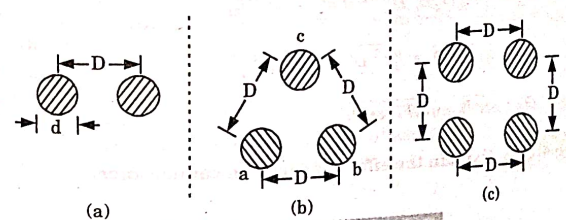

Fig. 4.15.1. Bundled conductors.
18. **Twin conductor bundle:** In this group, a two sub-conductor arrangement is shown in Fig. 4.15.1(a).
19. **Triple bundle:** A three sub-conductor arrangement is shown in Fig. 4.15.1(b).
20. **Quadruple bundle:** A four sub-conductor arrangement is shown in Fig. 4.15.1(c).